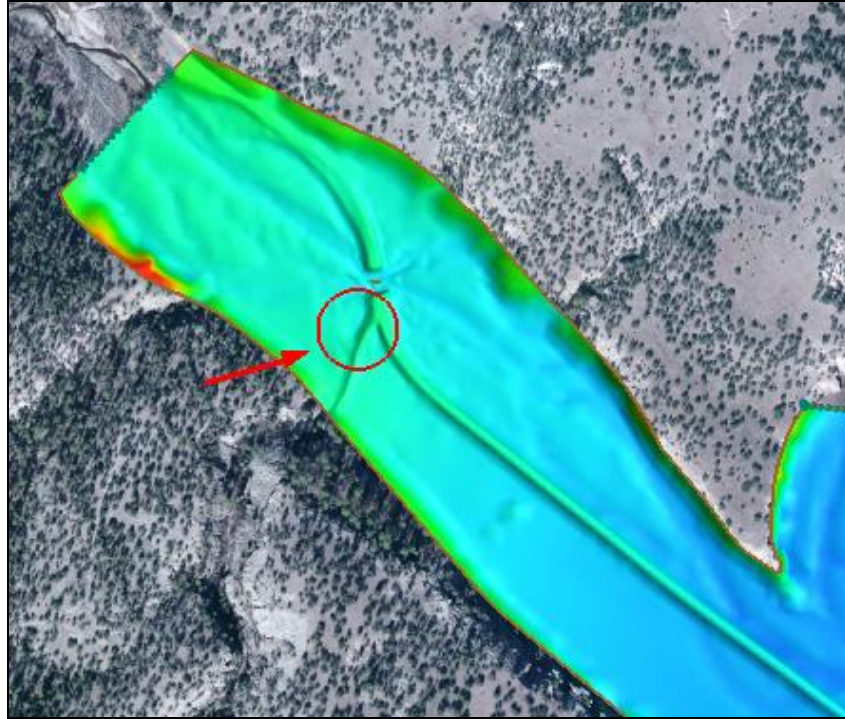

Figure 2 Weir location
The weir structure will be created along a berm near the bridge that is located just upstream of the confluence (see Figure 2). The weir will represent a proposed physical weir with the crest set lower than the berm elevations to provide a flood relief structure. This should help to prevent roadway overtopping. In SMS, weir structures are defined by creating two arcs that represent the upstream and downstream faces of the weir.
1. **Zoom**  into the location shown in Figure 2.